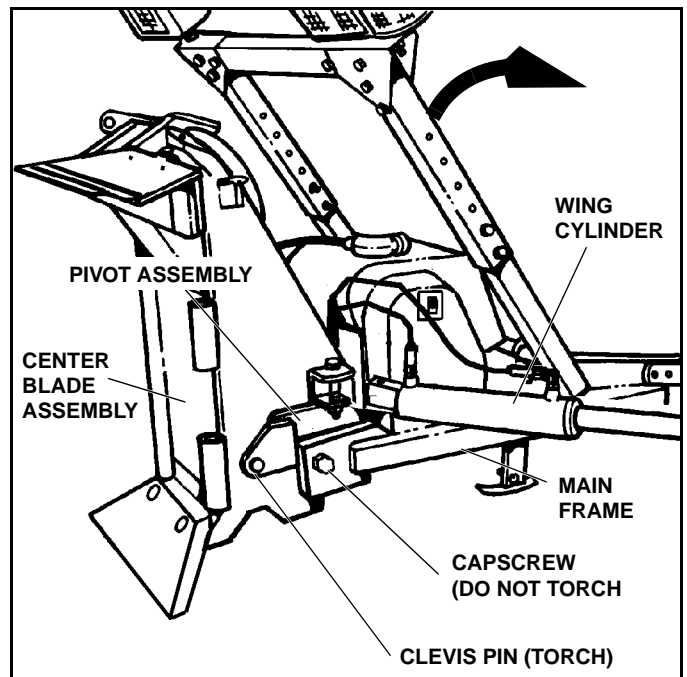

Figure 1-4
3. Remove Nylock Nut and Capscrew retaining Light Bar to Lift Bar. Roll Light Bar Assembly out of the way. (See Figure 1-4)